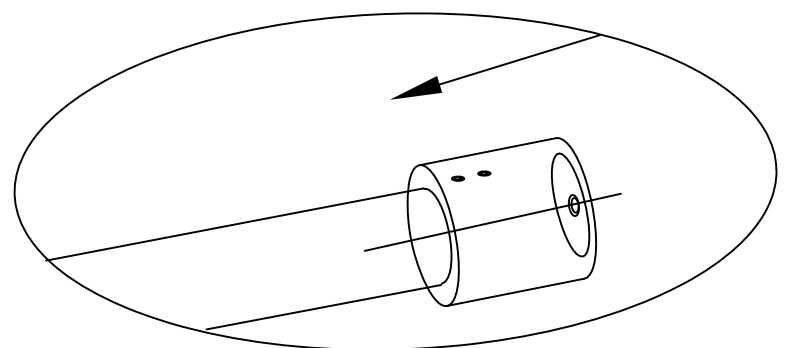

Fig. 9
9. Slide the Rail End Assembly (5) (6) on to end of Top Rail (2) to be connected shower wall. Loosely tighten the Rail End Assembly (5) into place on Top Rail (2) making sure the rail end assembly is fully engaged on top rail. See Fig.9 for details.